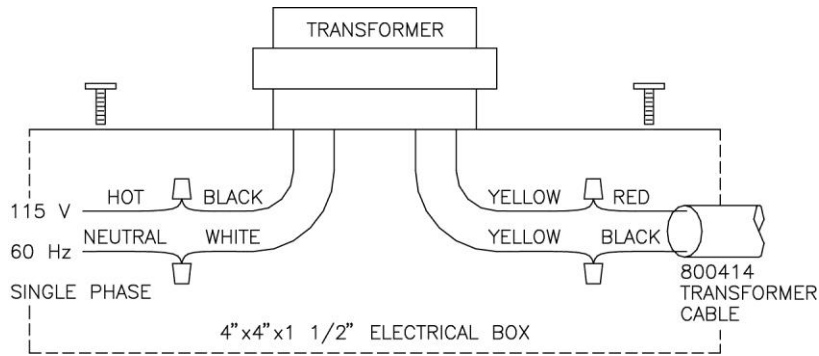

Figure 5: Transformer Installation
3. Connect 115 VAC line voltage HOT wire to BLACK wire on transformer and NEUTRAL wire to WHITE wire on transformer (Figure 5).